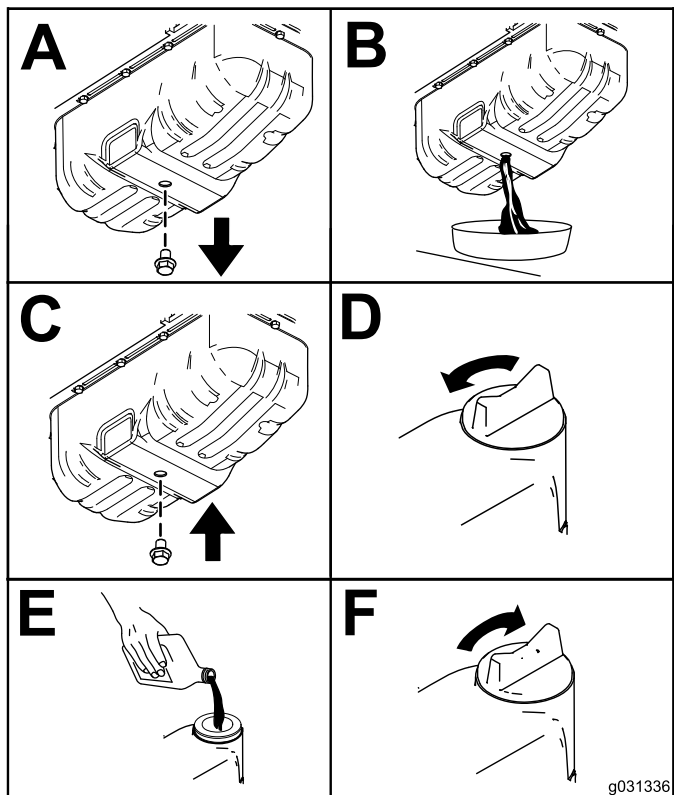

Figure 91
3. Change the engine oil as shown in Figure 91.